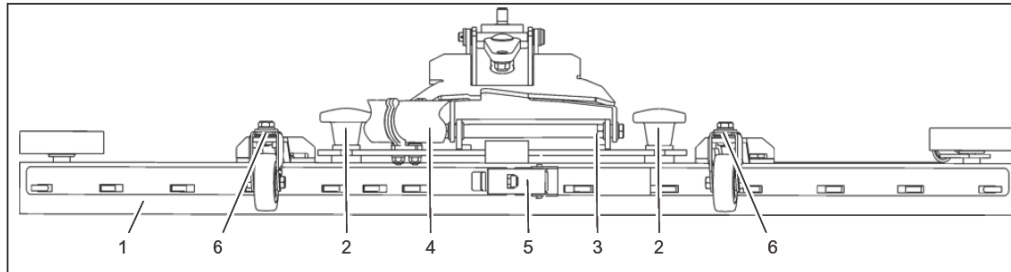

Fig. 11
Check the squeegee (Fig. 11/1) daily and clean as necessary.
To clean it lift the squeegee out, pull off the suction hose (Fig. 11/4), loosen the two star-shaped knobs (Fig. 11/2) and remove the squeegee.
Check the inner and outer squeegee blades on the squeegee (Fig. 11/1) weekly for signs of wear. The squeegee blades can be re-used by turning them.
3. Unlock the fastening device (Fig. 11/5) and remove the outer squeegee blade. Turn the squeegee blade or install a new one, as necessary. Change the inner squeegee blade in the same way.